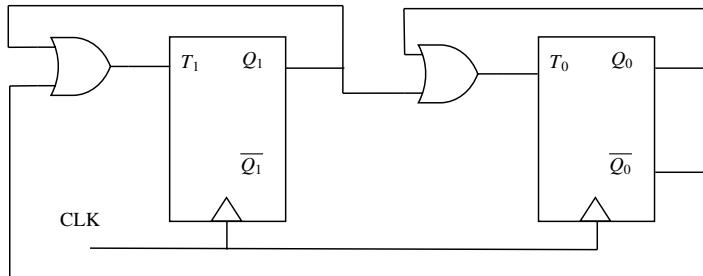

Fig. 5.25
27. The sequence of states ($Q_1 Q_0$) of the given synchronous sequential circuit in Fig. 5.25 is _____. (GATE EC 2024)